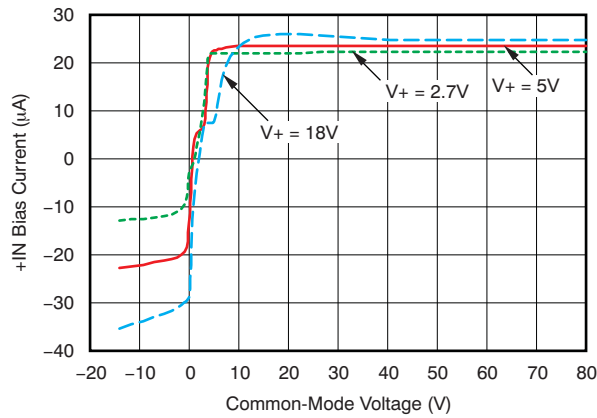

Figure 7. INA283 +IN Bias Current vs Common-Mode Voltage
(1) RTI = referred-to-input.
(2) See typical characteristic graph Figure 7.
(3) The average of the voltage on pins REF1 and REF2 must be between V_{GND} and the lesser of ($V_{\text{GND}} + 9\text{ V}$) and V_+ .